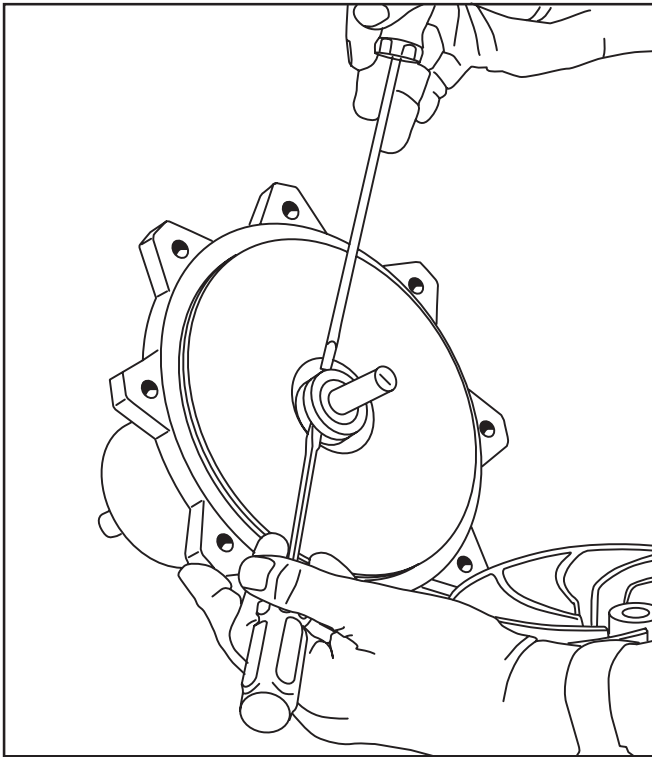

Fig. 20
7. Pry off seal with screwdrivers. It is not important if seal is damaged, as it must be replaced. Replace both parts of seal, never one or the other. Fig. 20.